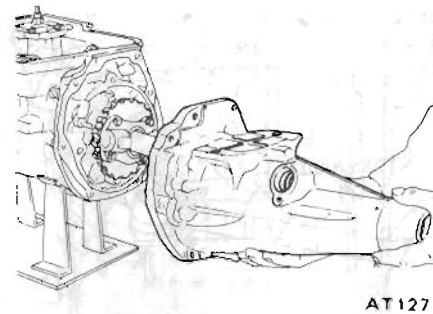

Fig. AT-61 Removing rear extension
15. Remove rear extension by loosening securing bolts. See Figure AT-61.